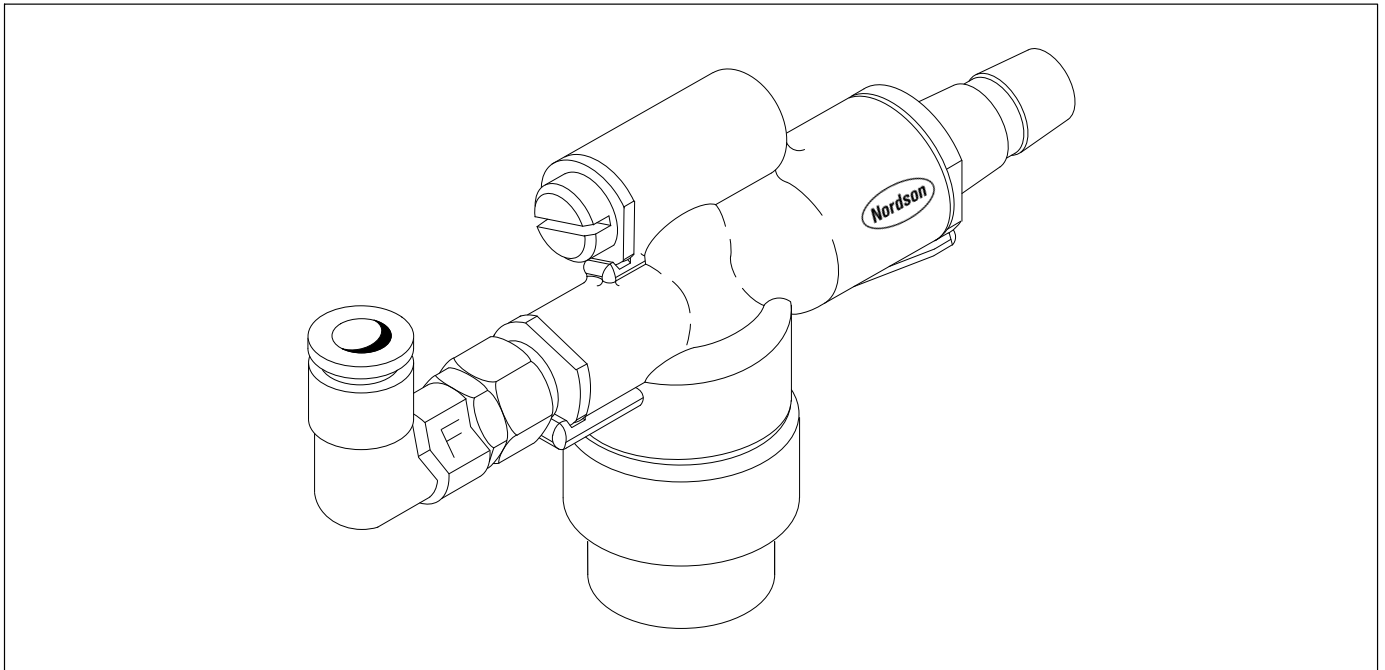

Fig. 1 Tribomatic Modular Pump with Adapter
See Figure 1. This kit includes a modular Tribomatic powder pump and adapter for use with the Tribomatic automatic powder spray gun. The adapter is used to install the pump onto a Tribomatic pump mount.
4. See Figure 1. When replacing the nozzle and throat holder, line up the parts so that each flat is facing up.